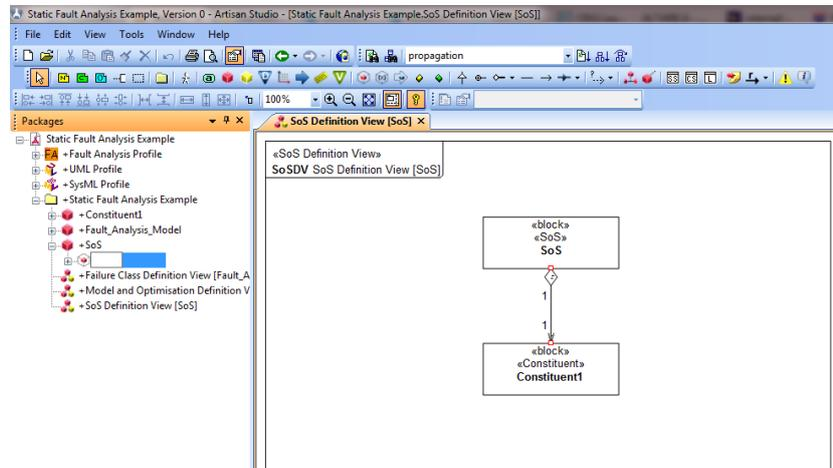

Figure 11: The view after the aggregation relationship has been added
3. Finally create an aggregation relationship between the *Constituent* and the *SoS* in the usual way resulting in the view shown in Figure 11